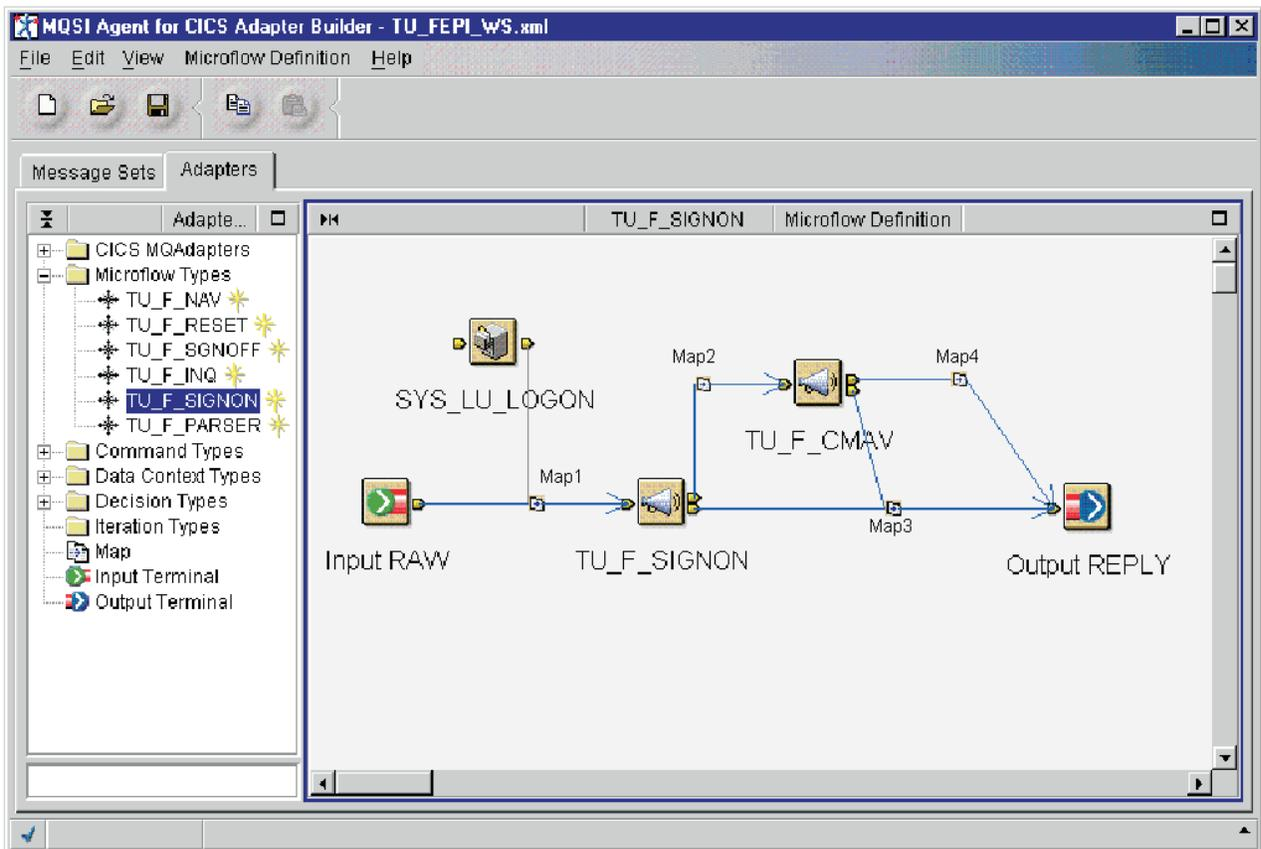

Figure 118. TU\_F\_SIGNON
The Signon subflow processing uses the FEPI Override feature to supply a Userid and PassTicket that allows the user to signon to the host system. You will add the nodes shown in Figure 118 on page 157.
- 1) Right click on the Input RAW node and select **Connect > Out**. Move the connection line to the TU\_F\_SIGNON node and left click. This adds a control connection and a map (Map1 node) between the two nodes. Refer to Figure 118 on page 157.